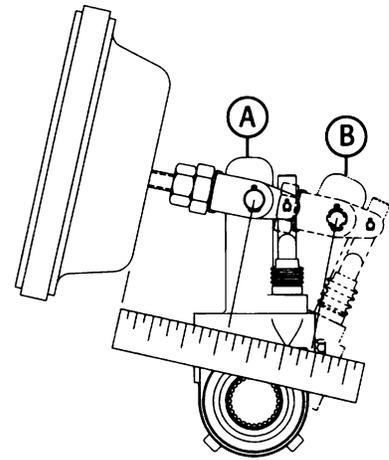

Figure 3 – Measuring Maximum Stroke
Using a ruler, measure the distance from the face of the air chamber to the center of the large pin in the clevis (A). (see Figure. 3)
Make an 85-psi brake application and allow the air chamber to travel its maximum stroke. Measure the distance between the face of the air chamber and the center of the large clevis pin (B) (see Figure. 3). The difference between the (A) measurement and the (B) measurement is the push rod stroke. Check the charts located on page 11 for the proper maximum stroke after adjustment of the brakes.